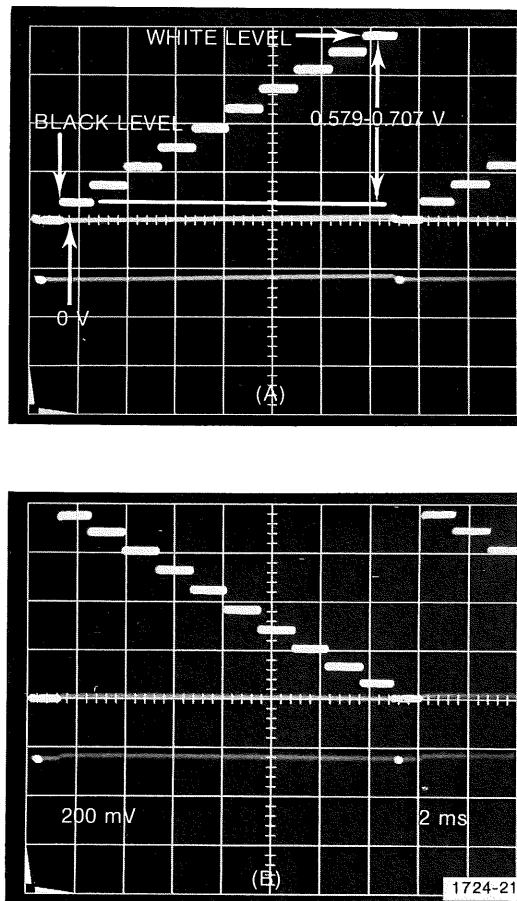

Figure 3-10. Composite Video Waveforms for the 10 Step Gray Scale Function.
- b. Depress the 50% FLAT FIELD switch. Adjust R217 (Logic And Output Board) for no shift in background level when the VIDEO POLARITY switch is depressed. Depress the 10 Gray Scale switch (16 Gray Scale for the 067-0690-01), and adjust R38 for an amplitude of 0.579 to 0.707 V from the black to the white level (Figure 3-10).
- c. Each plateau in the staircase must be flat, with a tilt of less than 10 mV. Each step must be equally spaced from the steps immediately above and below it (Figure 3-10).